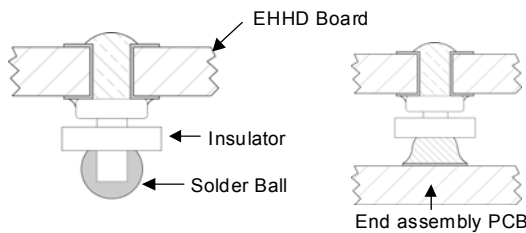

Figure 23. Column Pin Connector Before and After Reflow Soldering .
The surface mountable modules in the EHHD family use our newest SMT technology called "Column Pin" (CP) connectors. Figure 23 shows the new CP connector before and after reflow soldering onto the end-board assembly. The CP is constructed from a solid copper pin with an integral solder ball attached, which is composed of tin/lead (Sn/Pb) solder for non-Z codes, or Sn/Ag₃/Cu (SAC) solder for -Z codes.